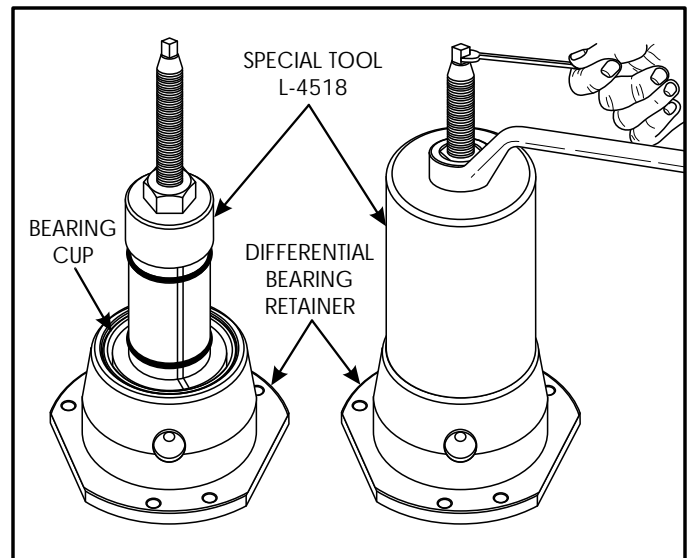

Figure 156
11. Install the special tool L-4518, bearing cup remover, in two steps, as shown in Figure 156, to remove bearing cup from the differential bearing retainer.